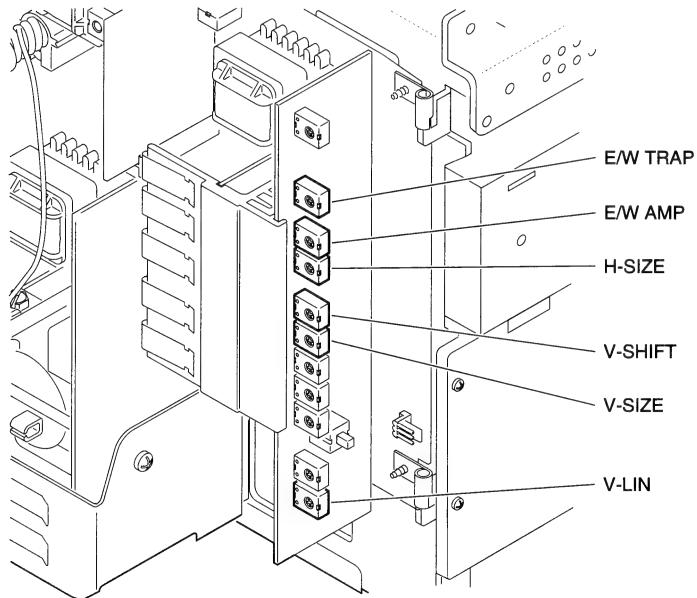

Figure 12 Geometric Adjustment Controls
2. FIGURE 12. Adjust the V-LIN control until the height of the squares at the top and bottom of the crosshatch pattern are the same.
2. FIGURE 12. Adjust the V-SHIFT control until the top and bottom bars are positioned in the vertical center of the screen.
- FIGURE 12. Adjust the V-SIZE control until the raster is 280 mm (± 3 mm) or 11" ($\pm 1/8$ ") high.
2. FIGURE 12. Adjust the E/W AMP control until the left and right vertical lines are straight.
- FIGURE 12. Adjust the E/W TRAP control until the left and right vertical lines are parallel.
- FIGURE 12. Adjust the H-SIZE control until the raster is 371 mm (± 3 mm) or 14 11/16" ($\pm 1/8$ ") wide.